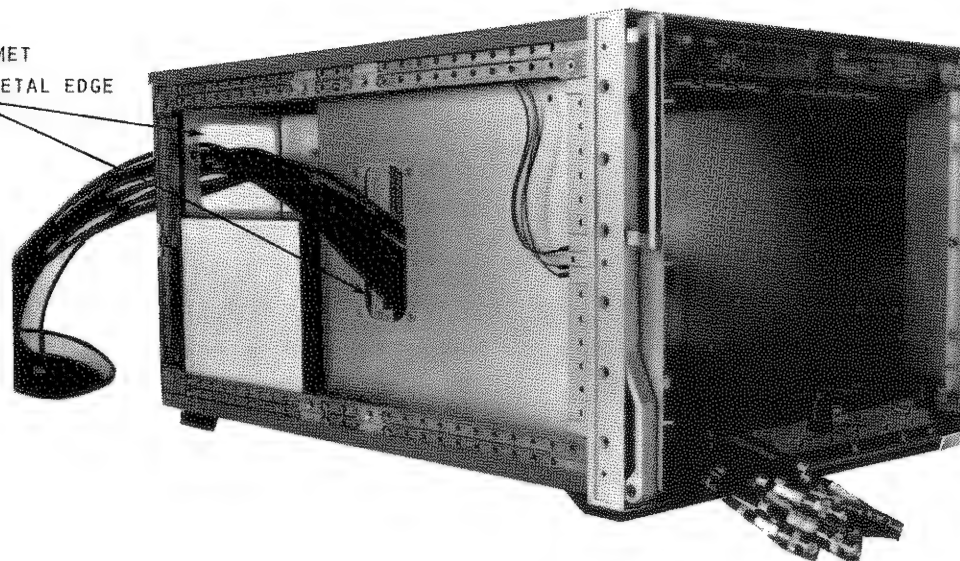

Figure 25. Routing Cables or Wires to the Cage.
5. Install PN 0400-0137 rubber grommet around two openings (Figure 25).
6. Route the feedthrough cables or wires into the card cage (Figure 25).